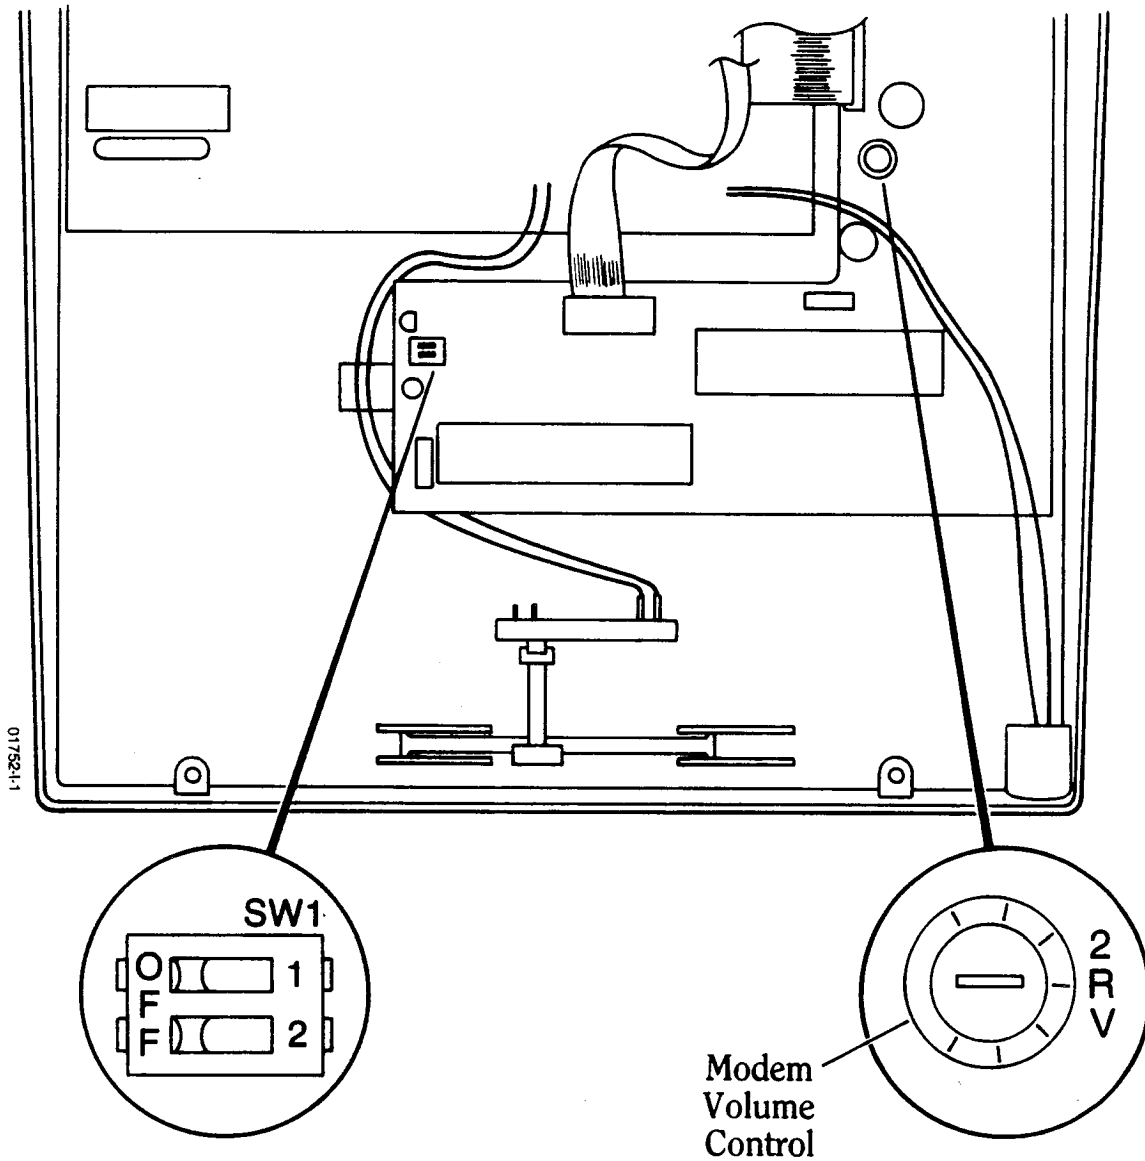

Figure 2 MODEM SWITCH SETTINGS AND ADJUSTMENTS
- Step 4 ▶ Check your DTE or communications software technical reference manual. If either one does not support Data Terminal Ready--DTR, place switch 1 on SW1, which is on the modem board, to the ON position. If the DTE or communications software supports DTR, either the ON or OFF position is acceptable. See Figure 2 — Modem Switch Settings and Adjustments.
- Step 5 ▶ Some DTE or communications softwares do not echo local command characters and result codes. To enable this, place switch 2 on SW1, which is on the modem board, to the ON position. See Figure 2 — Modem Switch Settings and Adjustments.
- Step 6 ▶ To adjust the volume level of the modem functions, e.g., dialing tones, use VR2. VR2 is located on the modem board. See Figure 2 — Modem Switch Settings and Adjustments.